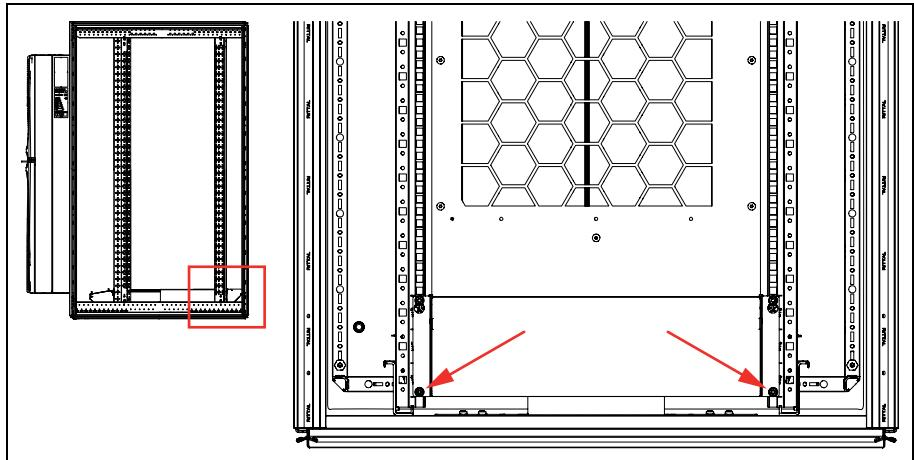
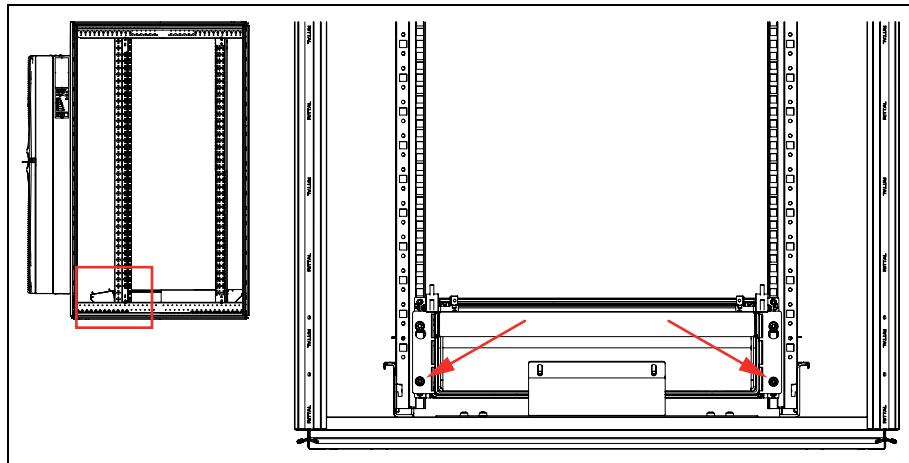

Fig. 14: Attach the front air duct
Fig. 15: Attach the rear air duct
- Using four further screws (pan-head screw l14583/5X16/TX25), each with one plastic washer (washer NZ/5.5), fully connect the air duct to the 482.6 mm (19") mounting angles (fig. 14 and fig. 15).